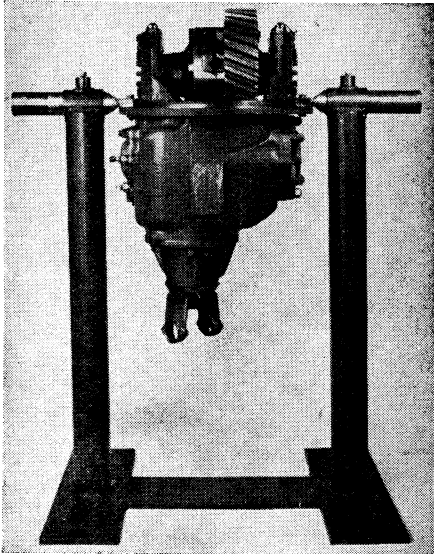

Fig. 53 Showing carrier in repair stand
8. Place carrier in a suitable holding fixture, such as shown in Fig. 53.